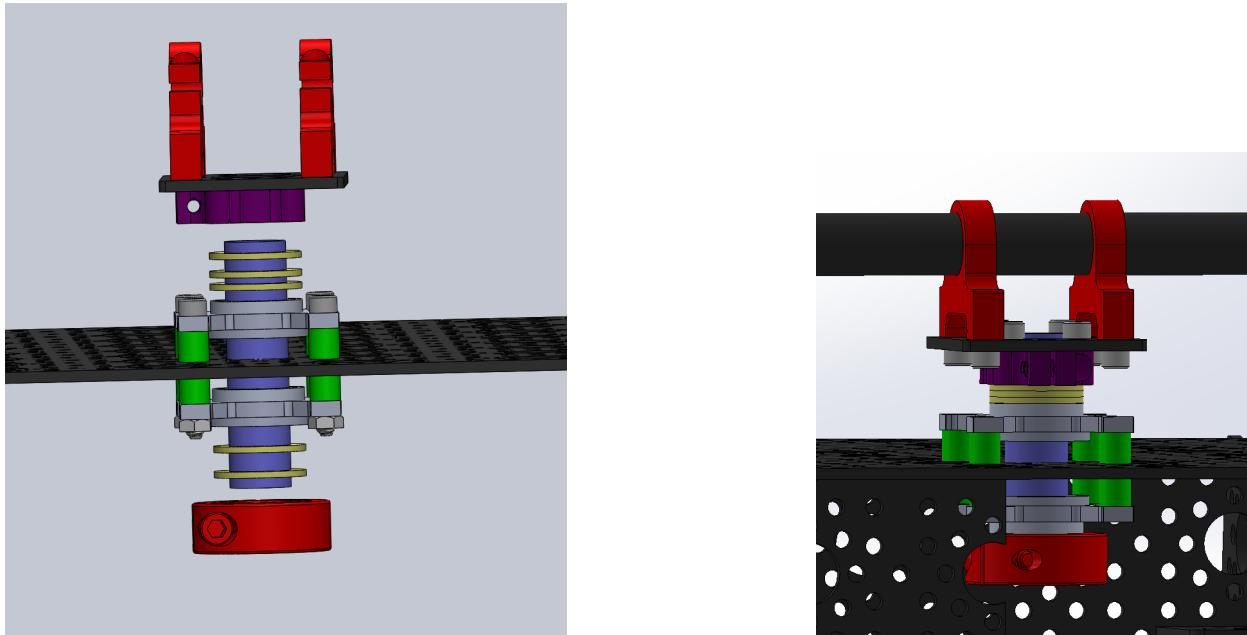

Figure 8: Inserting differential pivot joint
6. **Mounting the differential pivot center:** Mount a collar clamp **S22** onto the end of the 2" Aluminum Rod **S19** as well as two of the 0.5" Nylon washers **W3** as shown in Figure 8. Then, insert this rod into the pillow bearing blocks from the inside of the body assembly. Add three more nylon washers on the outside / top and then attach the clamping assembly on the middle of the differential pivot (see Figure 8).